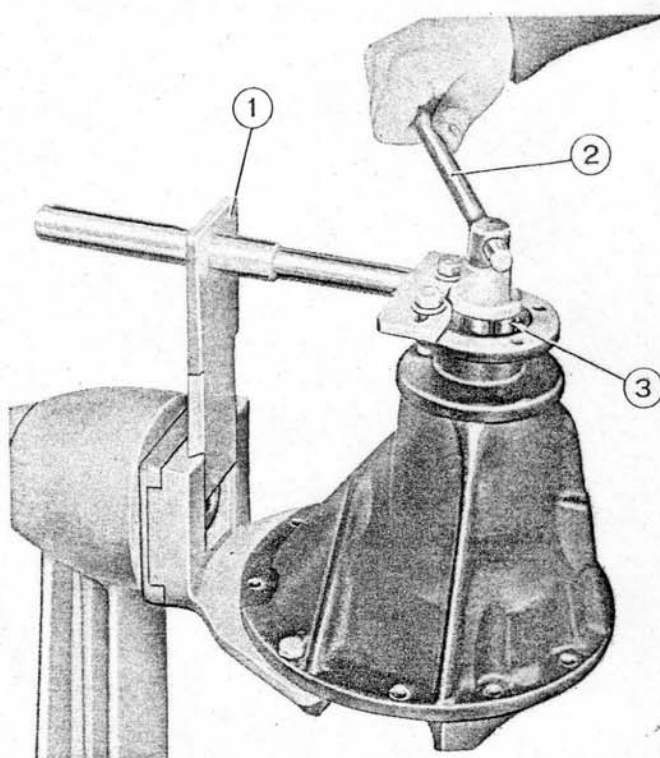

Fig. 72. - Removing bevel pinion nut.
- lock the drive pinion with tool Arr. 22206/4 (fig. 72);